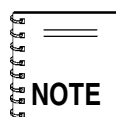

**Figure 3B. Full Power Switch 120VAC (Up)
5. **Full Power Switch** – This generator is provided with a full power switch. Figures 3B and 3C show simplified wiring diagrams of the dual voltage system. When the full power switch is in the 120 volt (up) position, you can take up **full rated power** of the generator at 120 volts from the GFCI duplex receptacle, 120 volts at the 120 volt twist-lock receptacle, or a combination of both receptacles as long as the total load does not exceed the generator's capacity.